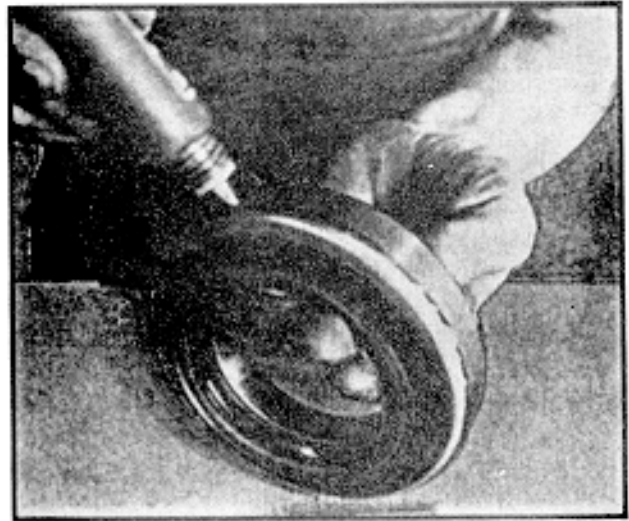
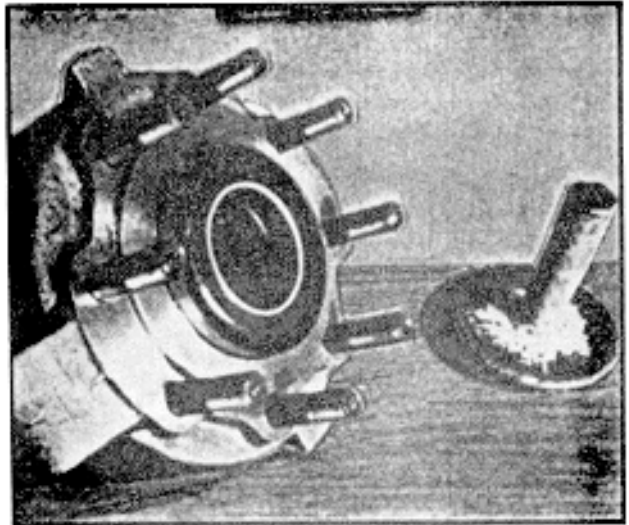

Fig. 28
Fig. 29
2. Apply liquid sealant or gasket cement to the outer edge of the inner drive yoke seal assembly. (See fig. 28). Press inner drive yoke seal assembly into suspension yoke with an installation tool. (See fig. 29 and 30). Remove excess sealant.